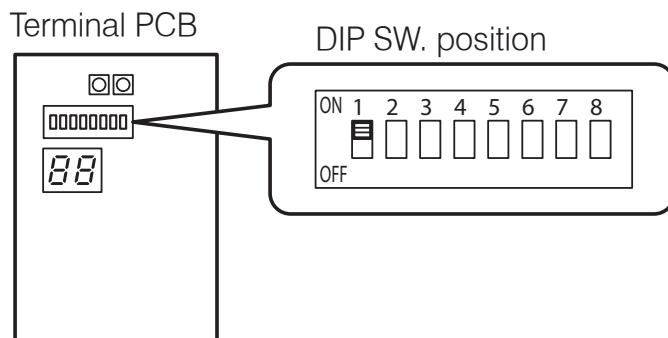

Figure 3-9: Anti-freeze function setting
- Set DIP SW1 to OFF (down position). Refer to Figure 3-9.